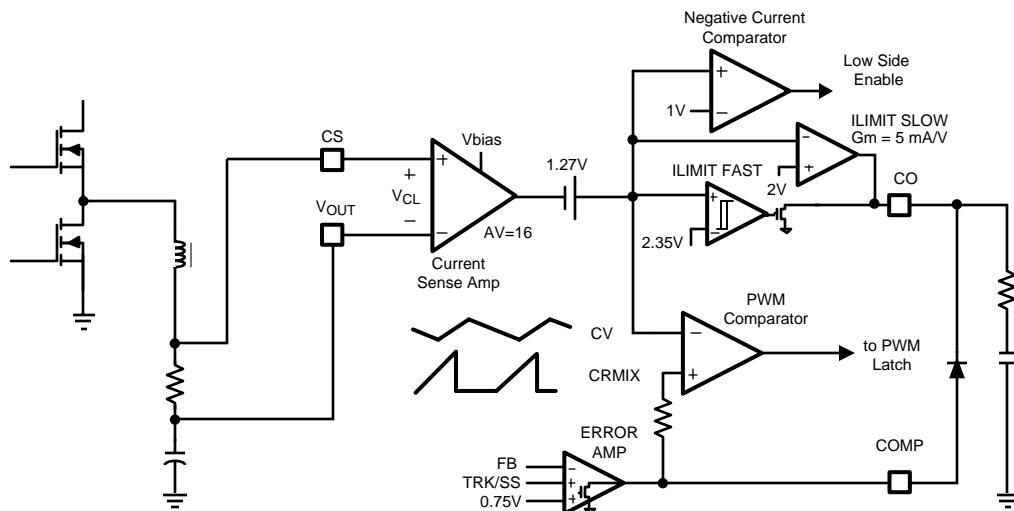

Figure 21. Current Sensing and Limiting
The current sense amplifier shown in Figure 21 monitors the inductor current as it flows through a sense resistor connected between CS and VOUT. The voltage gain of the sense amplifier is nominally equal to 16. The current sense output signal is shifted by 1.27V to produce the internal CV reference signal. The CV signal is applied to the negative input of the PWM comparator and compared to CRMIX as illustrated in Figure 21. Therefore when CRMIX exceeds the PWM threshold (CV), the PWM comparator turns on the high-side MOSFET. Insure that the Vbias voltage is at least 3V above the regulated output voltage (VOUT) to provide enough headroom for the current sense amplifier.
Current limiting is implemented through the current sense amplifier as illustrated in Figure 21. The current sense amplifier monitors the inductor current that flows through a sense resistor connected between CS and VOUT. The voltage gain of the current sense amplifier is nominally equal to 16. The output of current sense signal is shifted by 1.27V to produce the internal CV reference signal. The CV signal drives two current limit amplifiers. Both of the current limit amplifiers have open drain (sink only) output stages which are connected to the CO pin. The CO pin is typically connected to the COMP pin through a diode (the cathode is connected to the CO pin and the anode is connected to the COMP pin). The slow current limit amplifier has a nominal transconductance of 5 mA/V and provides constant current mode operation at the desired current limit set point. The fast current limit amplifier has nominal current pull-down capability of 100mA and provides protection against fast over-current conditions. During normal operation, the voltage error amplifier controls the COMP pin voltage which adjusts the PWM duty cycle by varying the internal CRMIX level. However when the current sense input voltage, V_{CL} , exceeds 45mV, the slow current limit amplifier gradually pulls down on COMP through the CO pin. Pulling COMP low reduces the CRMIX signal and thereby reducing the operating duty cycle. By controlling the operating duty cycle, the slow current limit amplifier will force a constant current mode of operation at the desired current limit set point (Figure 23). A resistor in series with a capacitor are connected from the CO Pin to ground to provide adequate control loop compensation for the slow current limit (Figure 21). The desired current limit set point, $ILimit$, can be programmed by selecting the proper current sense resistor, R_{SENSE} , using the following equation:
Under certain conditions synchronous buck regulators are capable of sinking current from the output capacitors. This energy is stored in the inductor and returned to the input source. The LM25115A detects this current reversal by detecting a negative voltage being developed across the current sense resistor. The intent of this negative current comparator is to protect the low-side MOSFET from excessive currents. Excessive negative current can also lead to a large positive voltage spike on the HS pin at the turn-off of the low-side MOSFET. This voltage spike may damage the chip if its magnitude exceeds the maximum voltage rating of the part. The negative current comparator threshold is sufficiently negative to allow inductor current to reverse at no load or light load conditions. It is not intended to support discontinuous conduction mode with diode emulation by the low-side MOSFET. The negative current comparator shown in Figure 21 monitors the CV signal and compares this signal to a fixed 1V threshold. This corresponds to a negative V_{CL} voltage between CS and VOUT of -17mV. The negative current limit comparator turns off the low-side MOSFET for the remainder of the cycle when the V_{CL} input falls below this threshold.